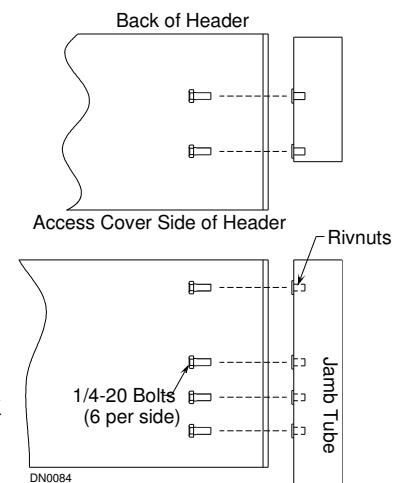

Figure 5
3. Position jamb tubes on each end of header. Fasten with provided 1/4-20 x 1 inch bolts into rivnuts in jambs (See Figure 5). Refer to label on jamb for proper location.